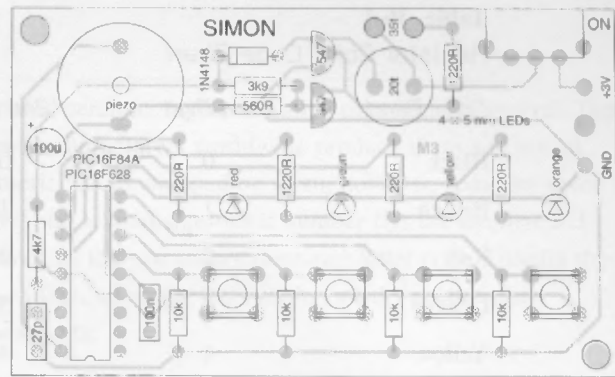

Figure 36-3 *Simon Memory Game pictorial diagram*
Once you have collected all the necessary tools and project parts, we can begin building the Simon Memory Game project. Next locate the Simon Memory Game pictorial diagram, depicted in Figure 36-3, which will help you identify parts placement on the PC board. Place all the project parts in front of you and heat up your soldering iron. Now refer to Table 36-1, which illustrates the resistor color chart. All resistors have color codes on the body of the resistor, which start at one end of the resistor body. The first color band represents the first digit of the resistor code. The second color band represents the second digit of the resistor’s code and the third color band denotes the multiplier value used to compute the value. A fourth color band depicts the resistor’s tolerance value. A silver band denotes a 10% tolerance value, while a gold band denotes a 5% tolerance. Absence of a fourth color band shows the resistor has a 20% tolerance. So look through the resistors for the project and try and see if you can locate a resistor with a 4.7 k ohm or 4700 ohm value. The first band will be yellow (4), the second band will be violet (7) and the third band will be (red), a multiplier of (00). Once you locate this resistor you can place it on the PC board at its proper location. Next you can solder the resistor to the circuit board, then follow-up by cutting the excess resistor lead flush to the edge of the circuit board with your end-cutters.